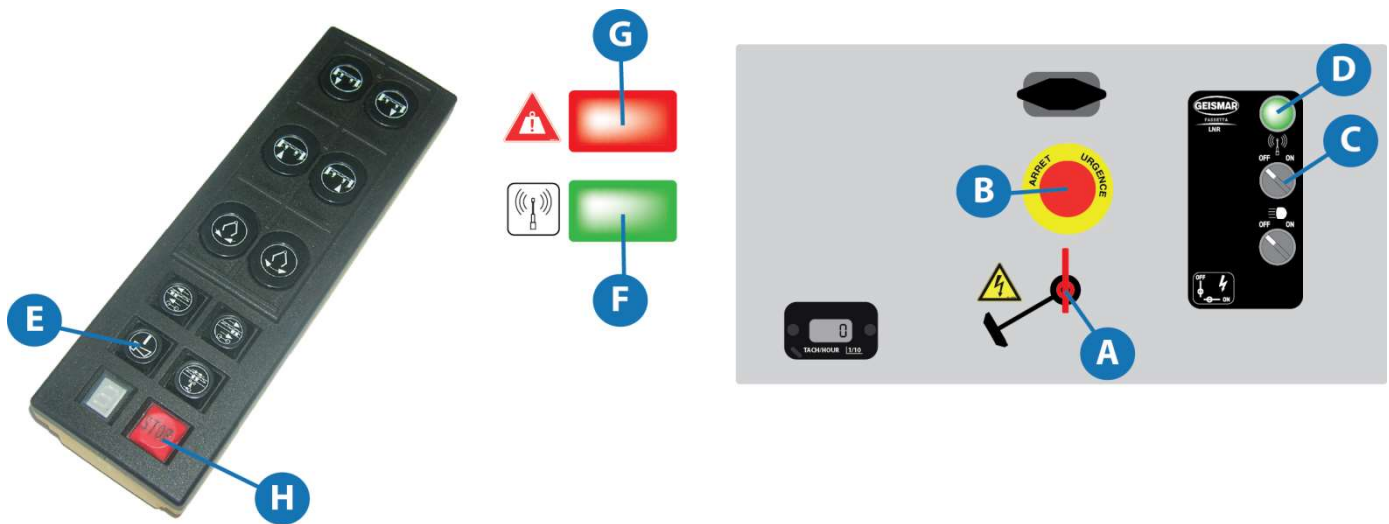

Figure 20
- Position the main battery switch to “ON” (Rep.A Figure 20).
- Unlock the emergency stop button with the key (Rep.B Figure 20).
- Set the radio control switch on the dashboard to ON (Rep.C Figure 20), the green light must come on (Rep.D Figure 20).
- Start the transmitter by pushing the “start” button ‘START’ (Rep.E Figure 20).
- Establish the connection between the transmitter and the receiver by pushing a second time on the ‘START’ button (Rep.E Figure 20) (see manufacturer's manual). The radio control selection light (Rep.F Figure 20), must switch on to confirm that the transmitter and the receiver are connected.
- ⚠ **When during the use of the machine the overload (red) light indicator (Rep.G Figure 20) is activated, it indicates that the useful load of the machine has been exceeded.**
- Turn off the transmitter by pushing the 'STOP' button (Rep.G Figure 20).
- Turn off the receiver with the ON / OFF switch (Rep.C Figure 20), the green LED (Rep.D Figure 20) should be off.
- Lock the emergency stop by pushing it (Rep.B Figure 20).
- Turn OFF the main battery switch (Rep.A Figure 20).